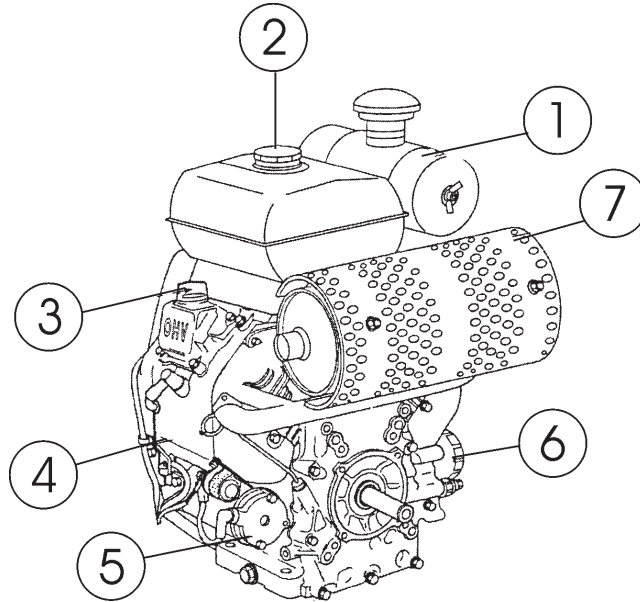

Figure 7. Engine Controls and Components
4. Engine Oil – (See figure 7)